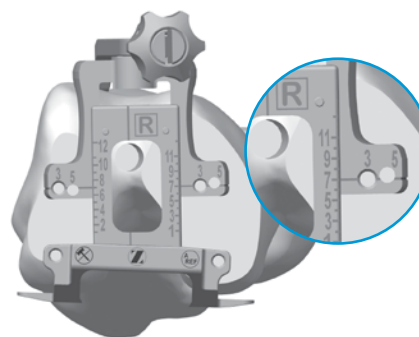
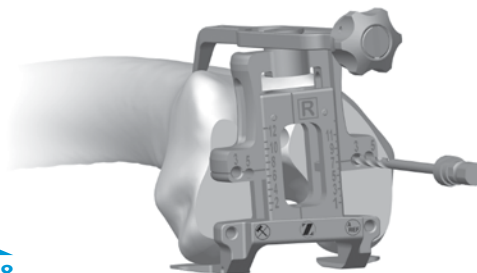

Fig. 17
Fig. 18
- After the Anterior Referencing sizer is appropriately positioned on the femur, read the femoral size from the engraved lines on the sizer tower and select the closest size (Fig. 17). There are six even-sizes labeled on the left side of the tower and six odd-sizes labeled on the right side of the tower, with lines indicating the in-between sizes. The 3° or 5° holes in the midline of the A/P portion of the sizer are used to drill 3.2mm holes for pegs on the Anterior Referencing 4-in-1 Femoral Cut Guide (Fig 18). A 3.2mm pin may be placed in the first drilled hole to maintain an “index” position prior to drilling the second hole. Remove the screws, then remove the sizer.